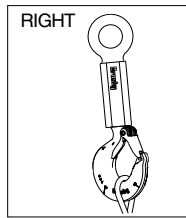

Figure 3
- When placing two (2) sling legs in hooks, make sure the angle between the legs is less than 90° and if the hook or load is tilted, nothing bears against the bottom of this latch. (See Figures 3 & 4)